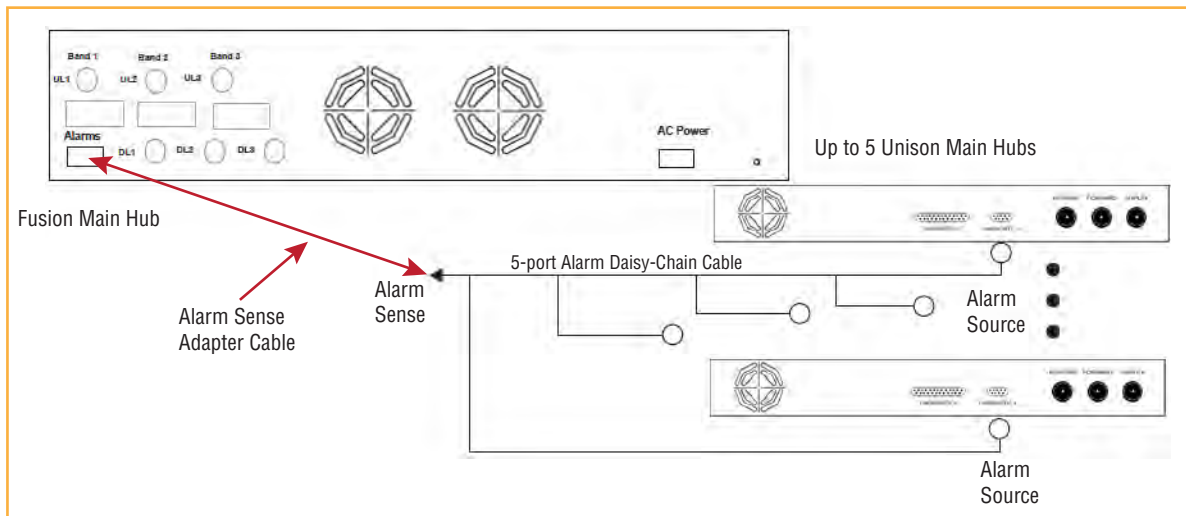

Figure 30. Using Fusion Wideband to Monitor Unison
When you connect Unison to Fusion Wideband, the Fusion Wideband Main Hub is the alarm sense (input) and the Unison is the alarm source (output), as shown in Figure 30. The input alarm sense needs to be set to normally closed (NC).